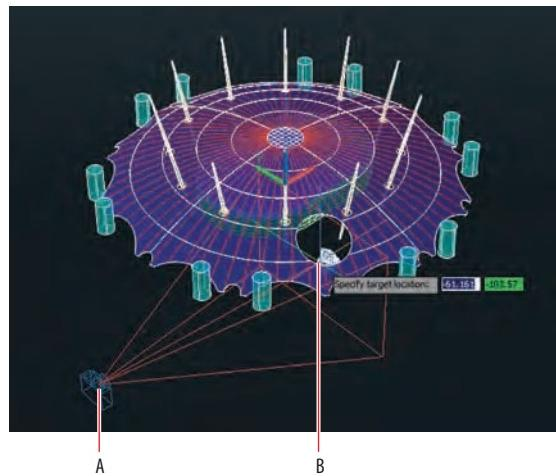

FIGURE 16.15 Placing a camera in an isometric view
4. Type **CAMERA** and press Enter. Click points A and B, as shown in Figure 16.15, and press Enter.